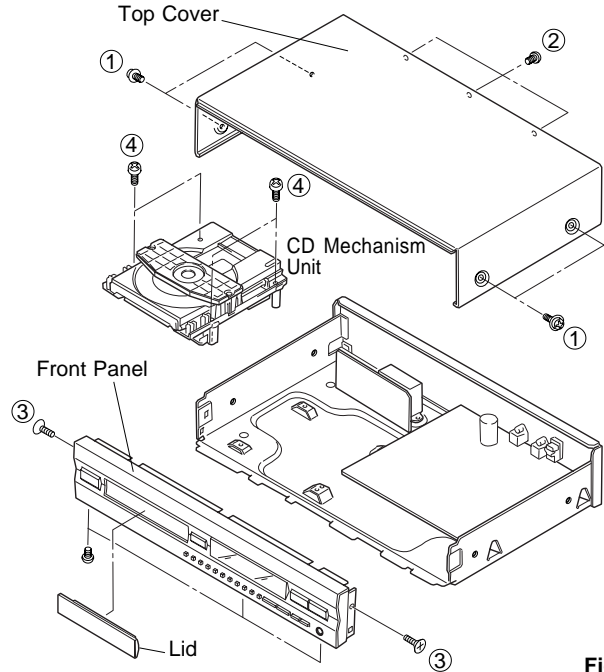

Fig. 1
- a. Remove 4 screws (①) and 3 screws (②) in Fig. 1.
- c. Remove 5 (③) screws in Fig. 1.
- b. Remove 4 screws (④) in Fig. 1.